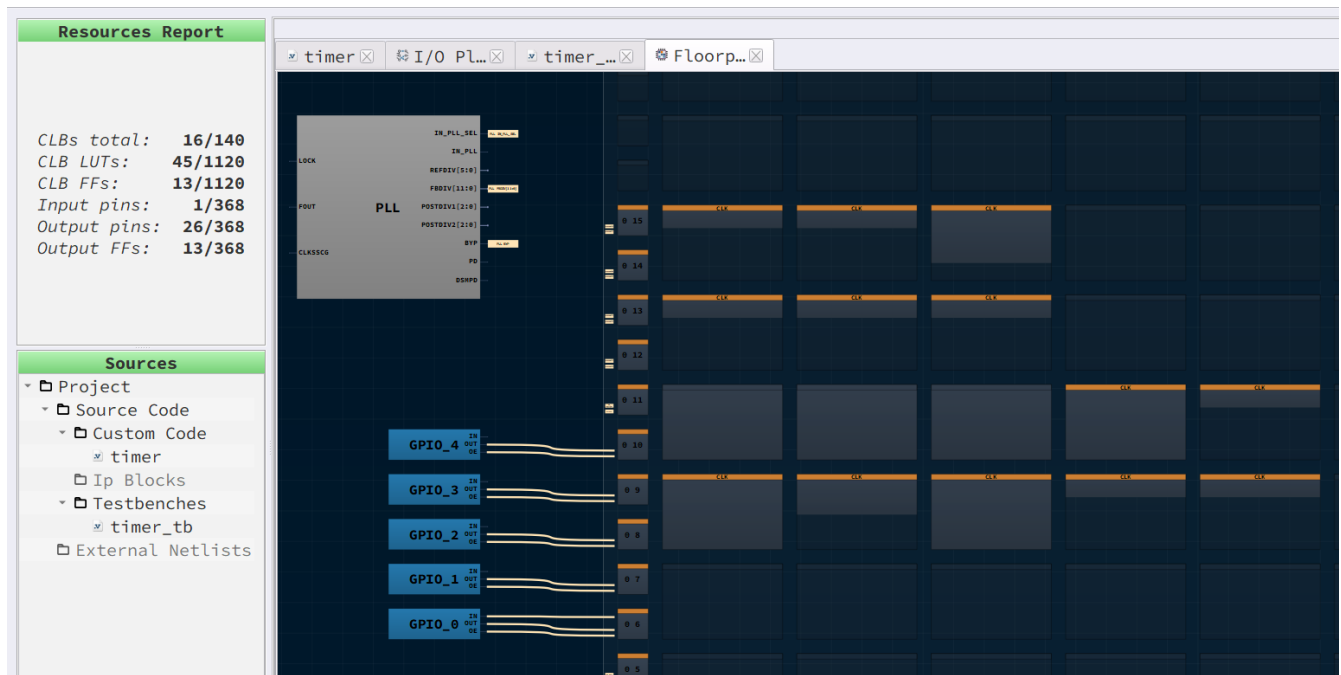

Figure 3: Countdown Timer CLB Utilization
The Floor planner tab in the FPGA Editor shows the placement of CLBs and FFs (Figure 3). The resource utilization is shown in the top left corner.
7. Now click on the Floorplan tab and see the CLB utilization (Figure 3). Press the Ctrl and the mouse wheel to zoom-in. Confirm that the IOs selected in the IO Planner are shown in the floorplan.